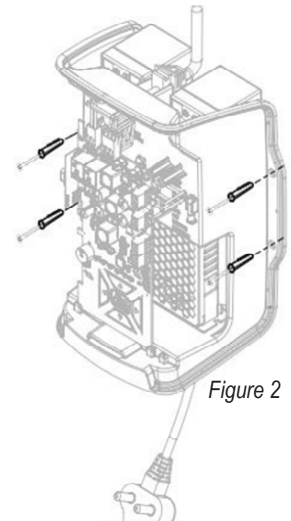

Figure 2
- Mount the back plastics to the wall with the 4 screws supplied (See Fig. 2)